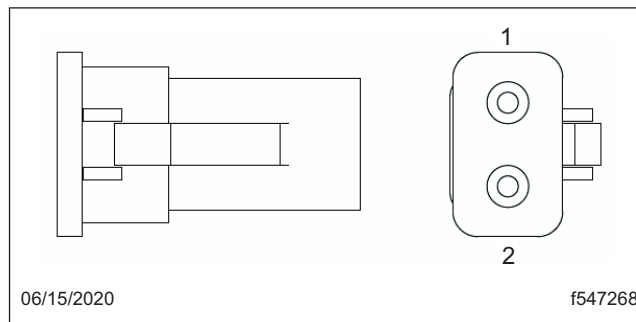

Fig. 20, ECA 2-Pin Connector
22. For vehicles requiring harness A66-13193-002SO only, locate and remove the ECA 2-pin connector TRANS_CTRL_ENG_O_ECU_ECA_1B on the front wall harness near bulkhead connector ENG_H_DASH_BHA_4A. Remove the terminal lock and extract the GNDE wire from cavity 1 on the front wall side of the connector using the tool DKIOCHA17002-2. Blunt cut the GNDE wire near the terminal. Apply shrink tube to the blunt cut wire and secure into the harness. See **Fig. 20**.